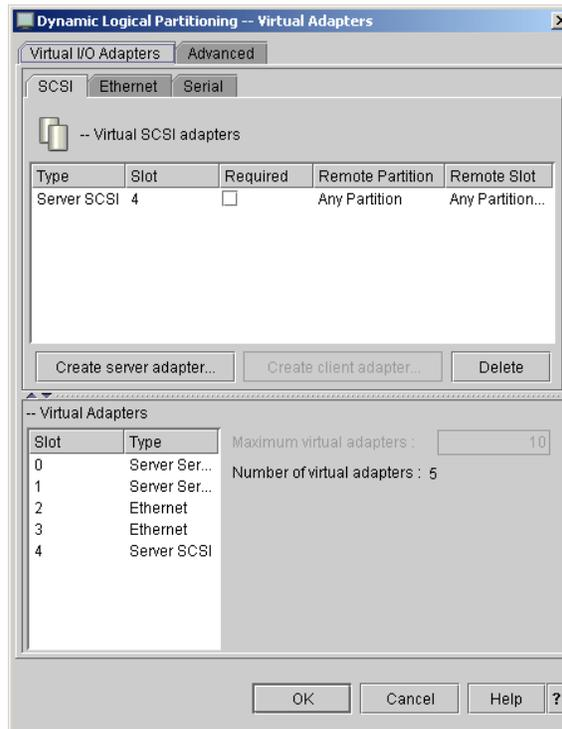

Figure 3-33 Dynamic Logical Partitioning dialog
3. Select the **Server partition** from the drop-down menu. Since you do not have a suitable server adapter from the list, you can create one. This function relies on the network being set up and dynamic LPAR operations working. Point to the Virtual I/O Server and select **Create server adapter**. See Figure 3-33.